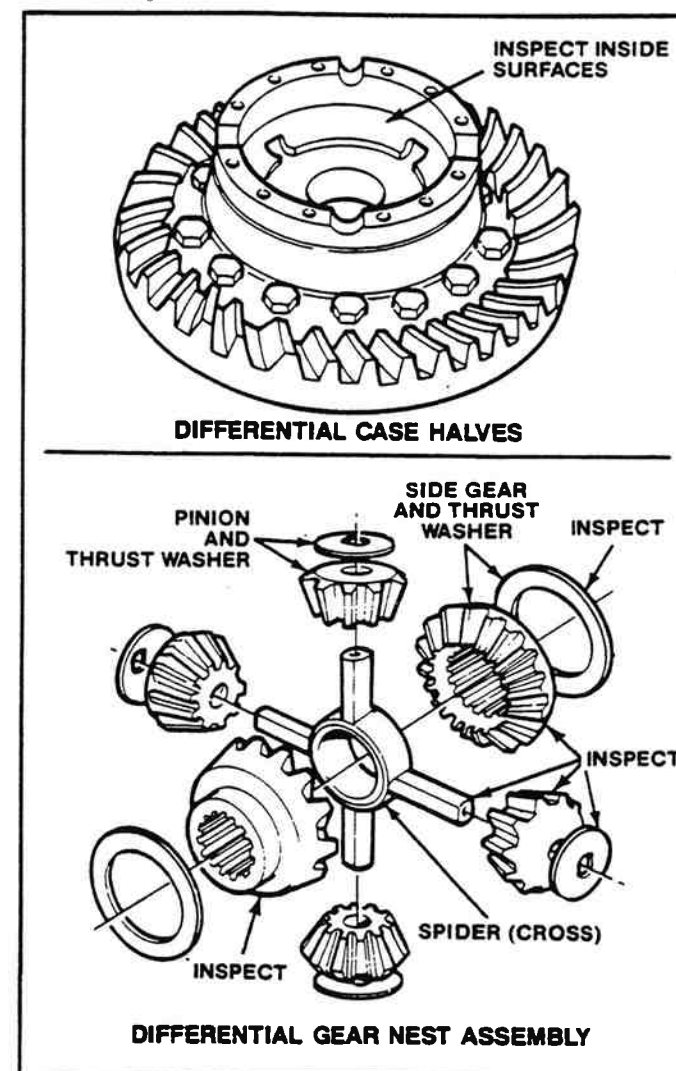

Figure 2-33. Inspection Points.
3. Inspect the Main Differential Assembly: Inspect the following parts for wear or stress. Parts that are damaged must be replaced (Figure 2-33).